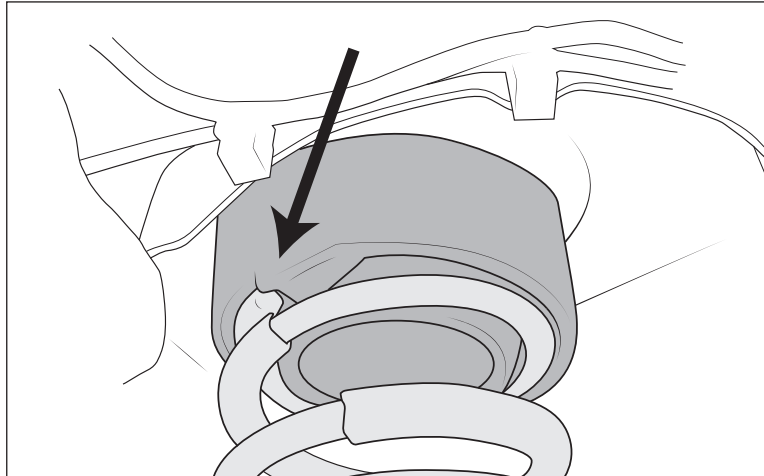

Figure 6
9. Reinstall the spring with the AEV Spring Spacer (inserting molded pin on top of the spacer into the hole in the frame). Be sure the spring is properly seated into the notch on the AEV spacer (fig. 6). Raise the axle to keep in place.